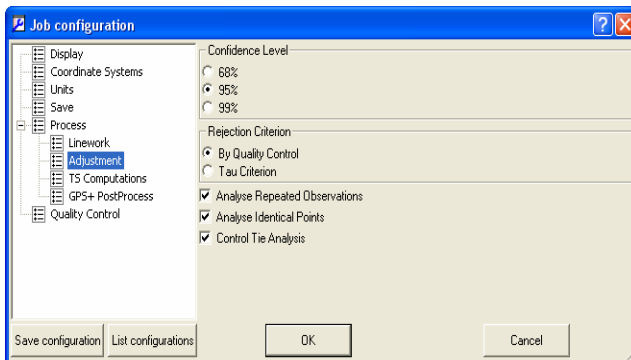

Figure 2-38. Job Configuration – Adjustment
- The *Adjustment* tab sets the confidence level for adjustment, the rejection criteria for quality control, and the tests to be performed before network adjustment (Figure 2-38). The default confidence level is 95% and the default rejection criterion is By Quality Control.